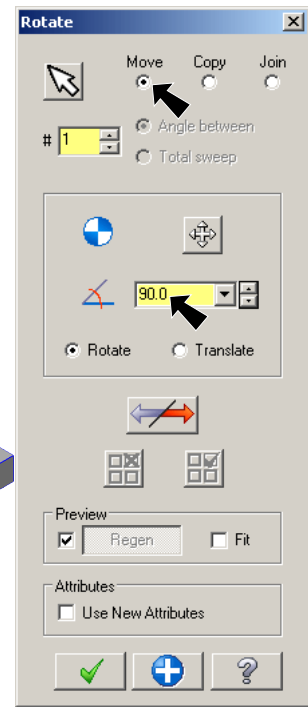

Fig. 10
Step 11. Set: **Move**  **90 for Rotation Angle** , **Fig. 10.**